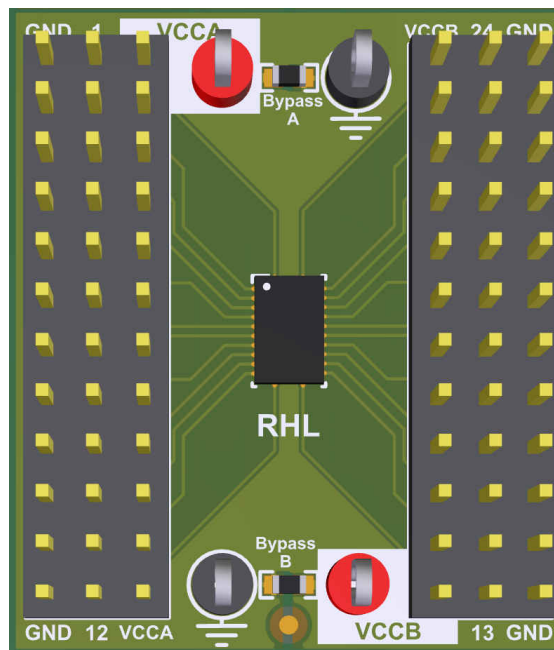

Figure 2-4. Fully Populated Section
| Figure 2-4. Fully Populated Section..... | 5 |
- Interface with device pins. The kit includes twelve 12-pin headers and eight supply test points which will allow the user to fully populate two sections (headers can be broken apart for lower pin counts). An example of this, with the addition of bypass capacitors for the supplies, as shown in Figure 2-4.